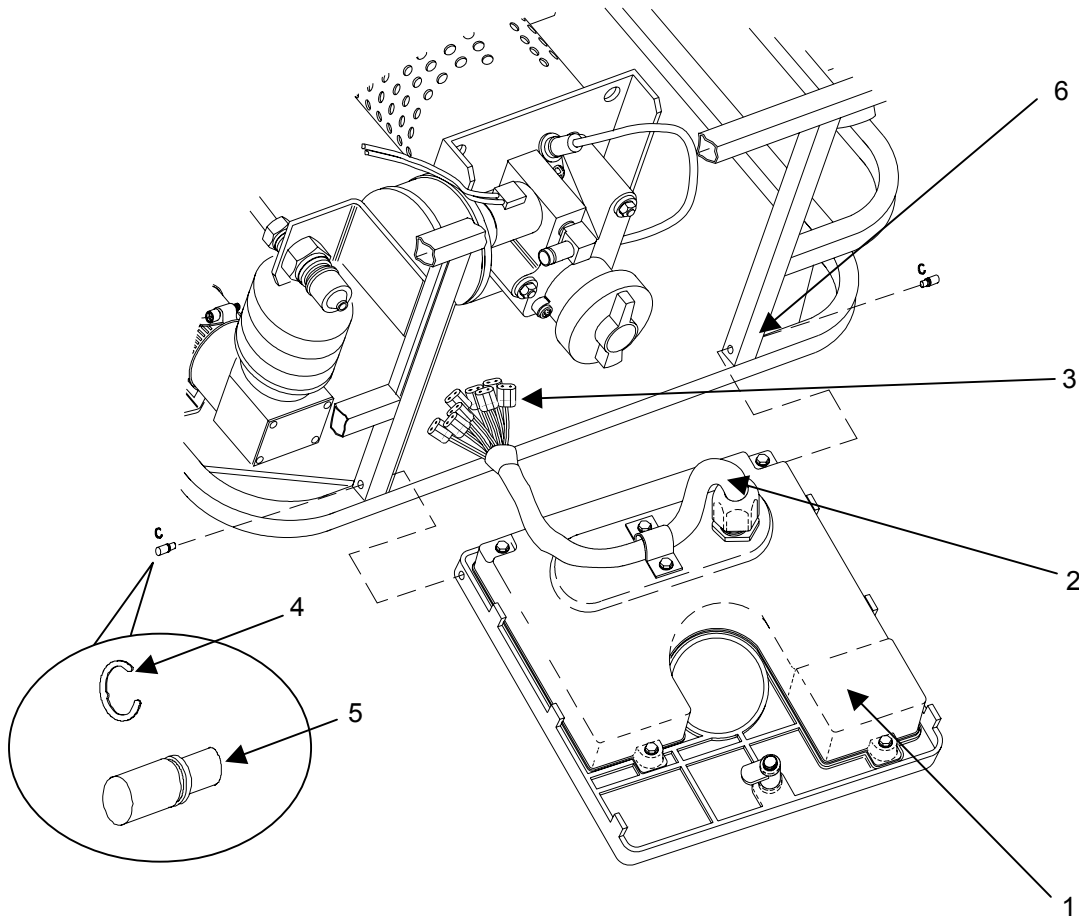

Figure 2. Replace the Controller Assembly
1. Ensure power is disconnected, and open hinged controller assembly (**figure 2, item 1**).
2. Follow the cable harness (**figure 2, item 2**) from the back of the controller assembly into the MBU. Note that the wires exiting each connector are color coded. Disconnect the eight connectors (**figure 2, item 3**) at the opposite end of the harness.
3. Remove snap rings (**figure 2, item 4**) from hinge pins (**figure 2, item 5**) with flathead screwdriver and remove hinge pins from frame (**figure 2, item 6**).
4. Remove the entire controller assembly (**figure 2, item 1**) from system.
5. To install new hinge pins (**figure 2, item 5**), place controller assembly (**figure 2, item 1**) into position and insert hinge pins through frame (**figure 2, item 6**).
6. Secure hinge pins (**figure 2, item 5**) with snap rings (**figure 2, item 4**).
7. Reinstall the connectors (**figure 2, item 3**) at the end of the controller harness assembly (**figure 2, item 2**). Be sure to follow the color coding of the wires.
8. Close and secure the hinged controller assembly (**figure 2, item 1**).